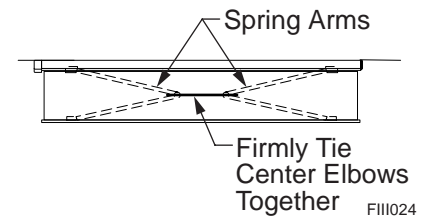

Figure 2. Securing the Arms.
- While supporting the LH end of the roll bar, slowly allow the lead rail to extend 8"-10" then press the lead rail in 2"-3". Using a minimum 1/4" rope, firmly tie the center elbows of the spring arms together, do not use bungee cords. This will release the fabric tension on the roll bar and keep the lead rail from extending. (Refer to Figure 2 – Securing the Arms.)